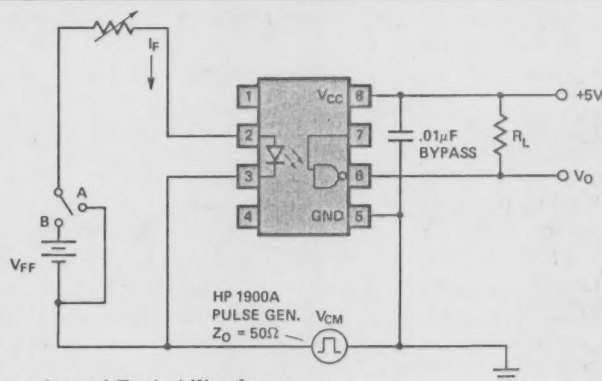

Figure 12. Recommended Printed Circuit Board Layout.
**Bypassing.** A ceramic capacitor (.01 to 0.1 $\mu$ F) should be connected from pin 8 to pin 5 (Figure 12). Its purpose is to stabilize the operation of the high gain linear amplifier. Failure to provide the bypassing may impair the switching properties. The total lead length between capacitor and coupler should not exceed 20mm.
**Enable Input.** No external pull-up required for a logic (1), i.e., can be open circuit.